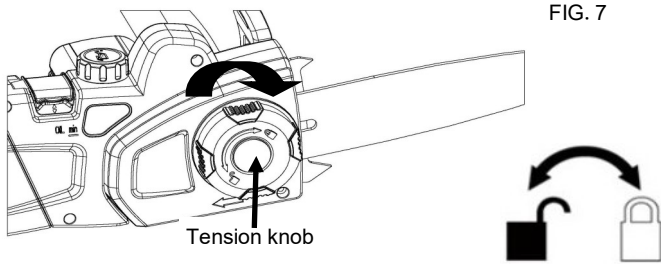

FIG. 7
12. Tighten the tension knob. Remove all slack from the chain by turning the knob clockwise until the chain seats snugly against the bar with the drive links in the bar groove. (Fig. 7)